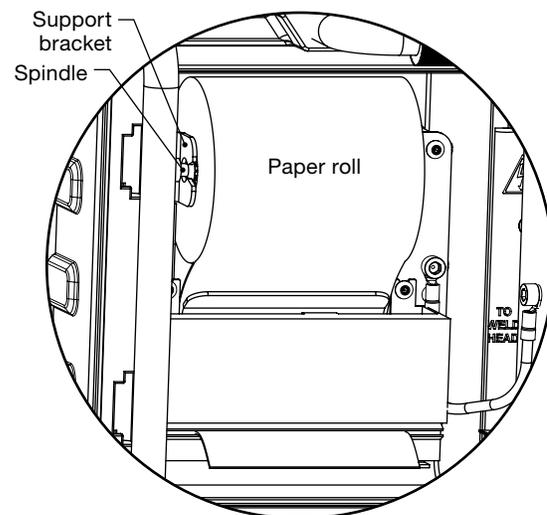

Fig. 53—Properly Loaded Paper Roll
- After the paper is loaded, slide the **spindle** through the **paper roll**. Press the ends of the spindle together and snap it into the **support bracket** (Fig. 53). To remove slack in the paper, re-roll the paper or press Paper Feed on the Main Menu. Press Paper Feed to advance and straighten the paper.